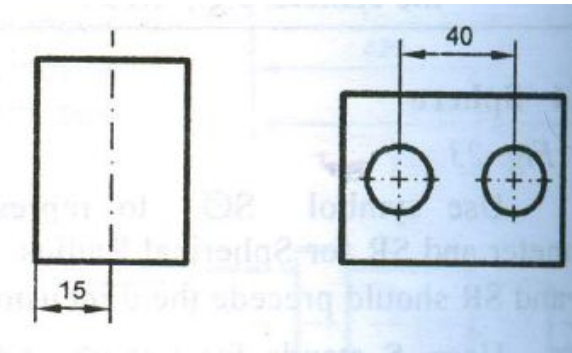

Fig 5b
2. Center line(axis) itself shall not be used as a dimension line with arrowheads as its ends. Fig 5b